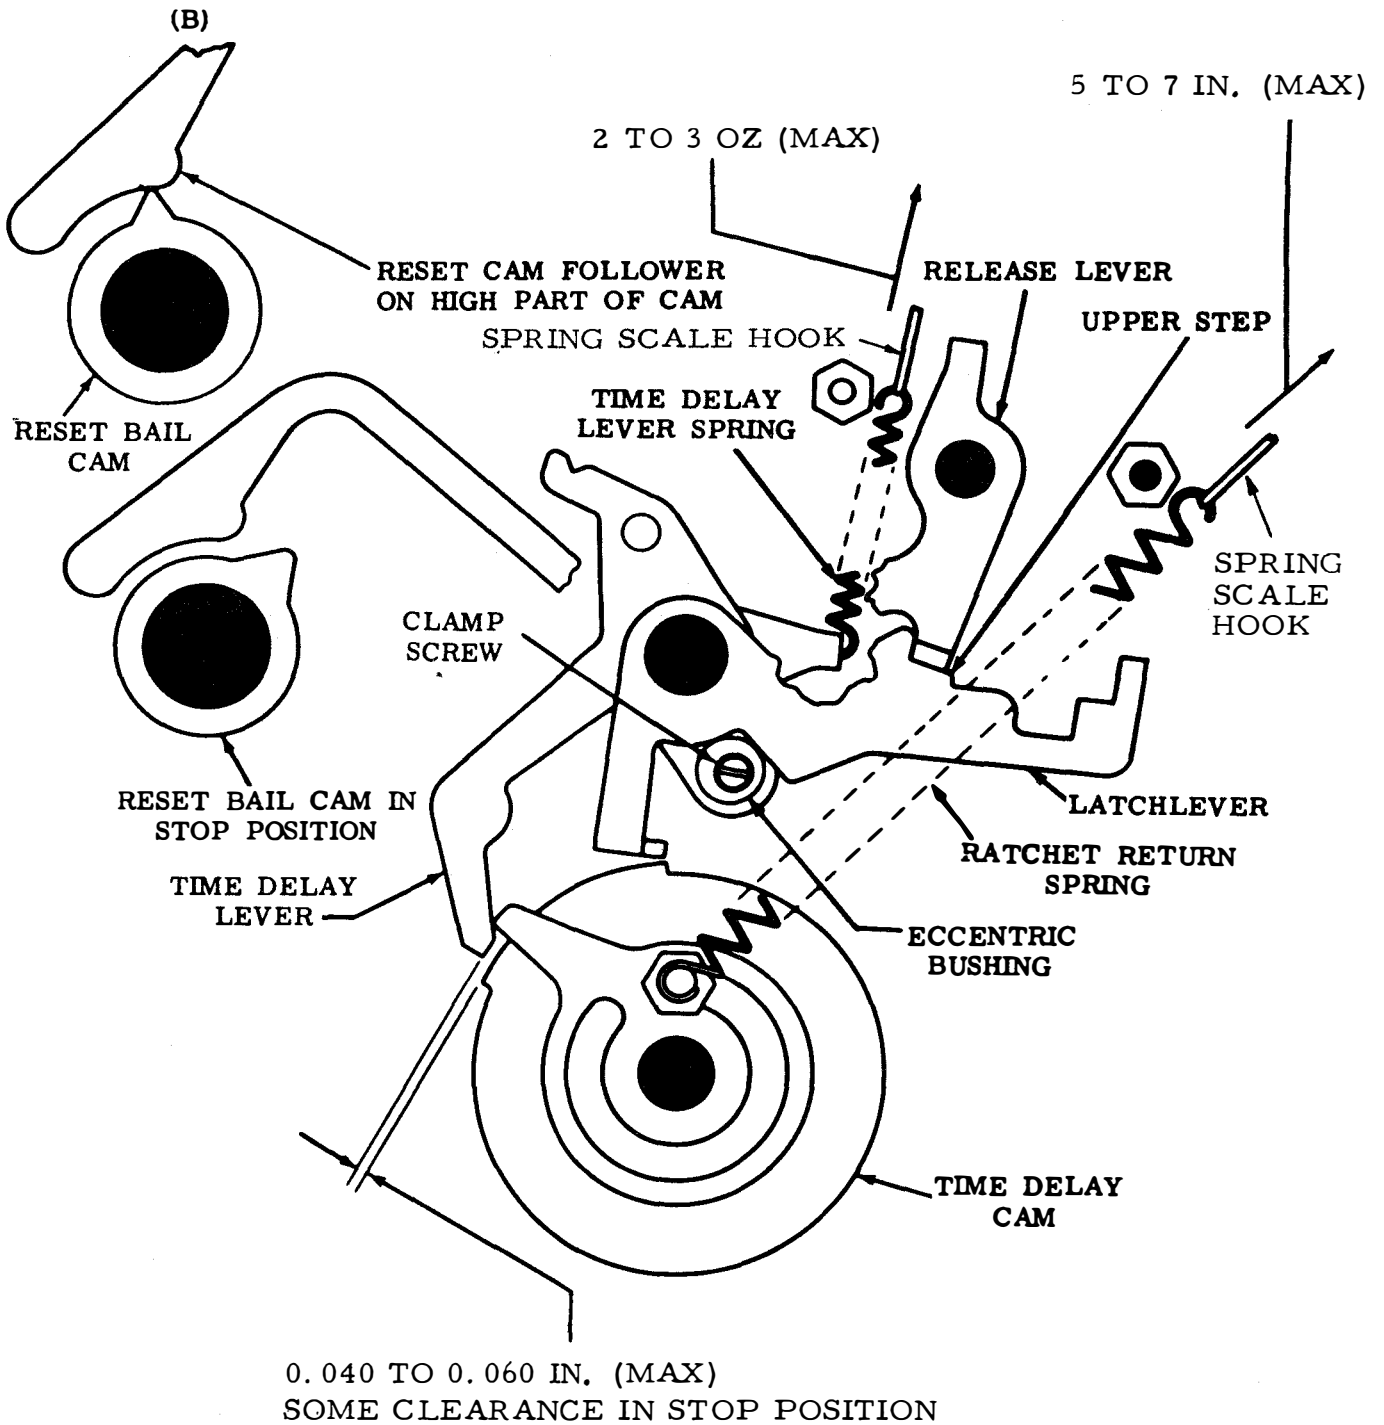

Figure 6-494. Time Delay Lever, Time Delay Lever Spring, and Ratchet Return Spring, Reperforator, Front View
(19) Time Delay Lever. Adjust as follows:
- (a) Refer to Figure 6-494.
(20) Time Delay Lever Spring. Adjust as follows:
(21) Ratchet Return Spring. Adjust as follows: